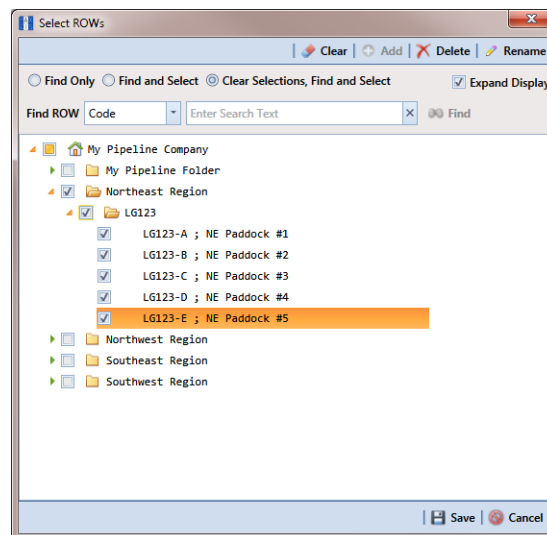

Figure 6-3. Select ROWs
- 1 Click the **Select ROWs** button  to open the *Select ROWs* window (Figure 6-3). Select the pipeline segment(s) with the facilities you want to work with, then click  **Save** to close the window.
- 1 Click the **Select ROWs** button  to open the *Select ROWs* window. Select the pipeline segment(s) associated with the continuous survey folder you want to delete. Then click  **Save** to close the window (Figure 6-3, page 161).
- 1 Select one or more pipeline segments in the *Select ROWs* window. Click  **Save** to close the window (Figure 6-3, page 161).